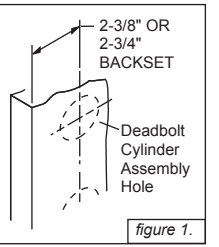

figure 1.
2. Mark appropriate centers for the 2 1/8" diameter holes. Note: This product will accommodate a 1-1/2" (38mm) diameter hole for **deadbolt cylinder assembly** **only** if desired. Important, select desired backset before marking centers (see figure 1).